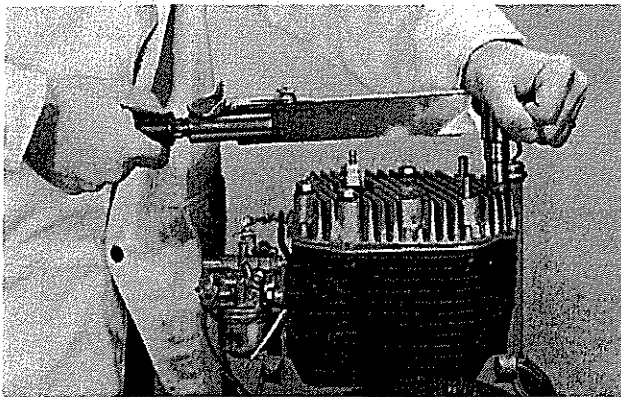

Figure 23
- c. It is important that head screws be tightened evenly, and in steps until 40 ft. pounds torque is reached (Figure 23).